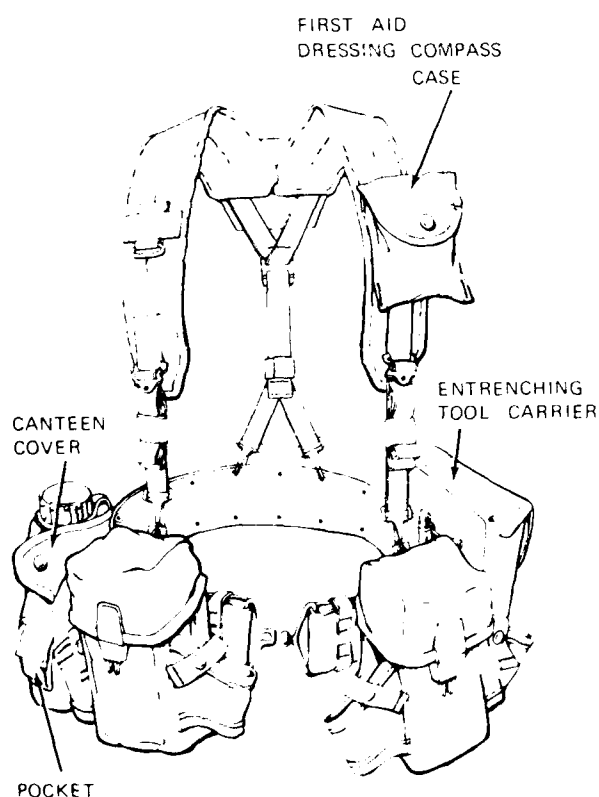

Figure 2-6.—Attaching entrenching tool carrier canteen cover, and first aid dressing/compass case.
the carrier as close as possible to the ammunition pouch. (See fig. 2-6.)
1. Attach the cover onto the right side of the belt by means of the two slide keepers on the back. Attach it as close as possible to the ammunition pouch. (See fig. 2-6.)
This case can be attached by means of the slide keeper on the back of the case in either of the following positions. (See fig. 2-6.)